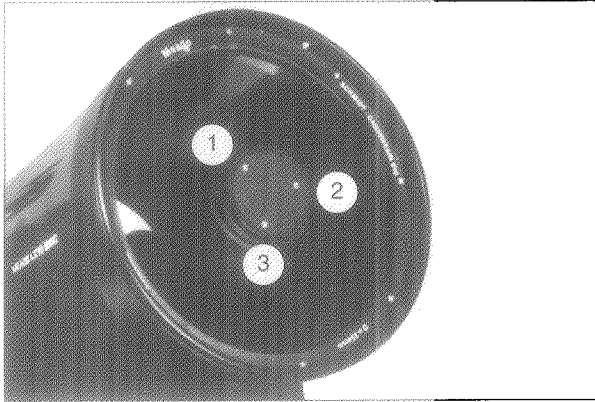

Fig. 21: (1), (2), (3) set screws for adjusting collimation.
- a. The only adjustments possible, or necessary, on the LX10 are from the three set screws (Fig. 21) located at the edge of the outer surface of the secondary mirror housing.